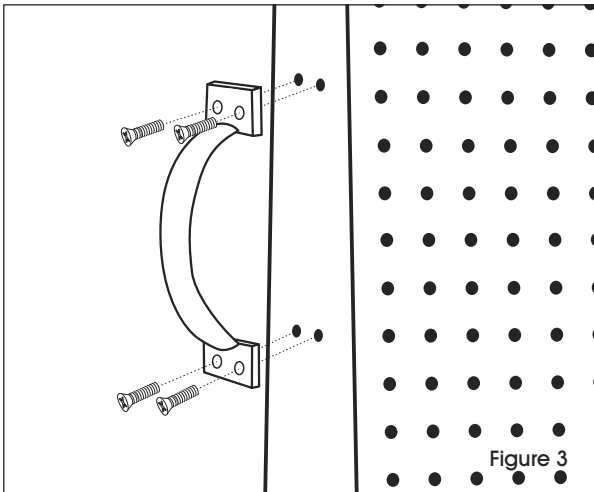

Figure 3
1. Place one handle on one support panel. Align holes on the handle with holes in the support panel. (See Figure 3)
2. Insert four Phillips head bolts through the holes in the handle. Secure using #2 Phillips screwdriver, but do not tighten. (See Figure 3)